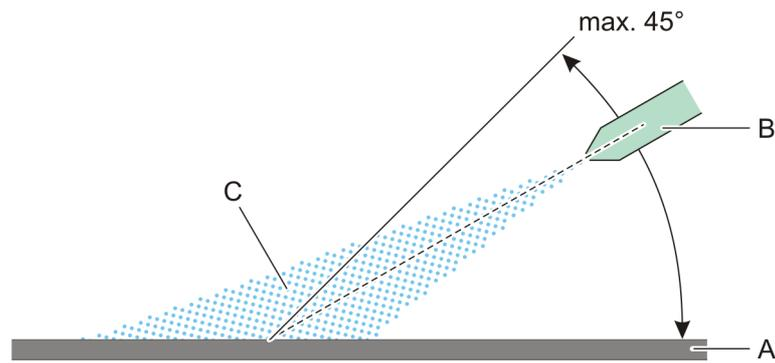

Fig. 7-5
- 5** Clean the parts by bead blasting. Make sure that the jet hits the surface at a shallow angle (≤ 45°). See Fig. 7-5, 167.